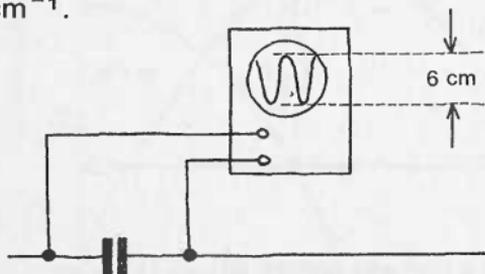

Figure 57
**36** In figure 57 the oscilloscope's Y-sensitivity is set at  $1 \text{ V cm}^{-1}$ .